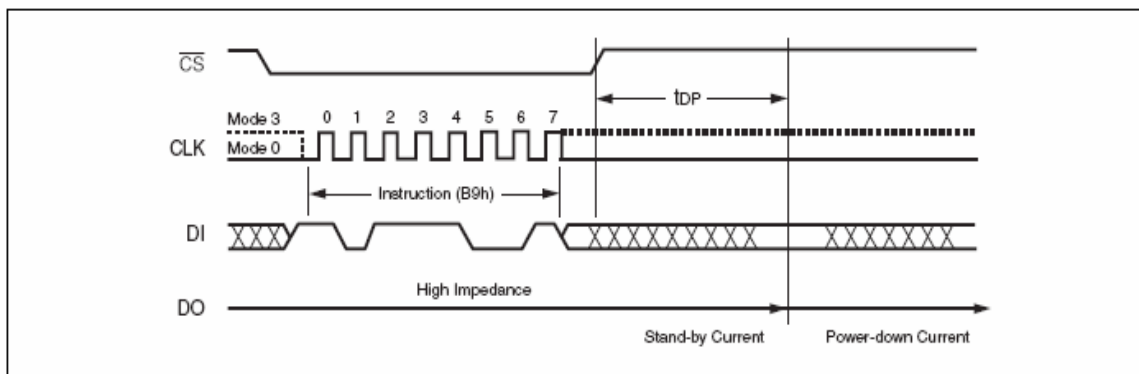

Figure 14. Deep Power-down Instruction Sequence Diagram
The instruction sequence is shown in Figure 14..Chip Select (CS#) must be driven High after the eighth bit of the instruction code has been latched in, otherwise the Deep Power-down (DP) instruction is not executed. As soon as Chip Select (CS#) is driven High, it requires a delay of t_{DP} before the supply current is reduced to ICC2 and the Deep Power-down mode is entered.